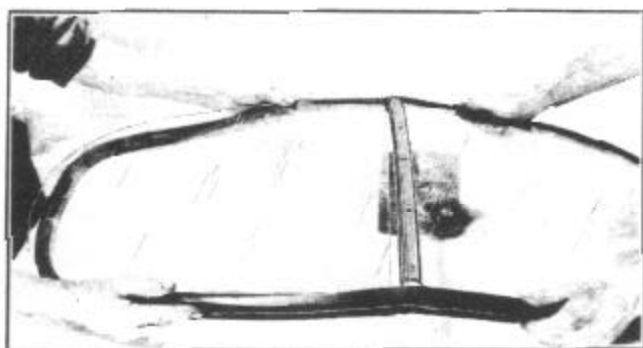

FIGURE 61
**NOTE: To facilitate assembly of the new glass on the 500 models, place a block of wood under the window center bar, Figure 61.**